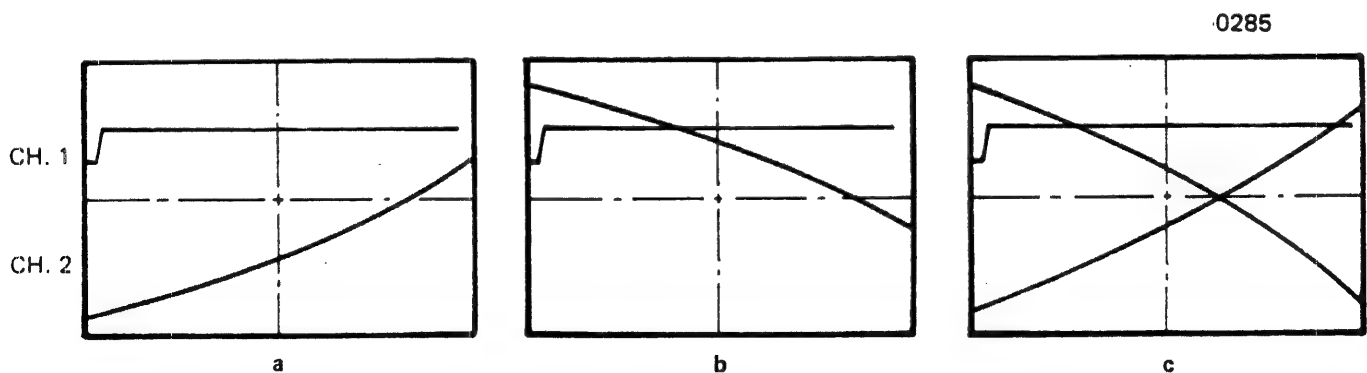

Figure 4-29. Triggering Method
- c. Set channel 1 oscilloscope probe and external trigger probe on test point TPI07 (Read Data Electronics PWB) and set Channel 2 oscilloscope probe on test point TPI03. Set oscilloscope sweep for sufficient resolution to accurately measure the time between leading edge of each trace. One of patterns shown in Figure 4-29 can then be observed on oscilloscope screen.